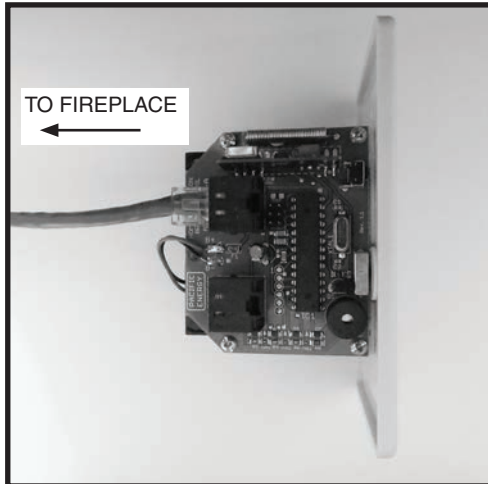

Figure 28: Wall switch - interface side.
- Route the wall switch control cable (supplied) as required to the wall switch (Figure 28).
- Attach one end of the wall switch control cable to the wall control (Figure 28), and the other end to the interface board (Figure 26).